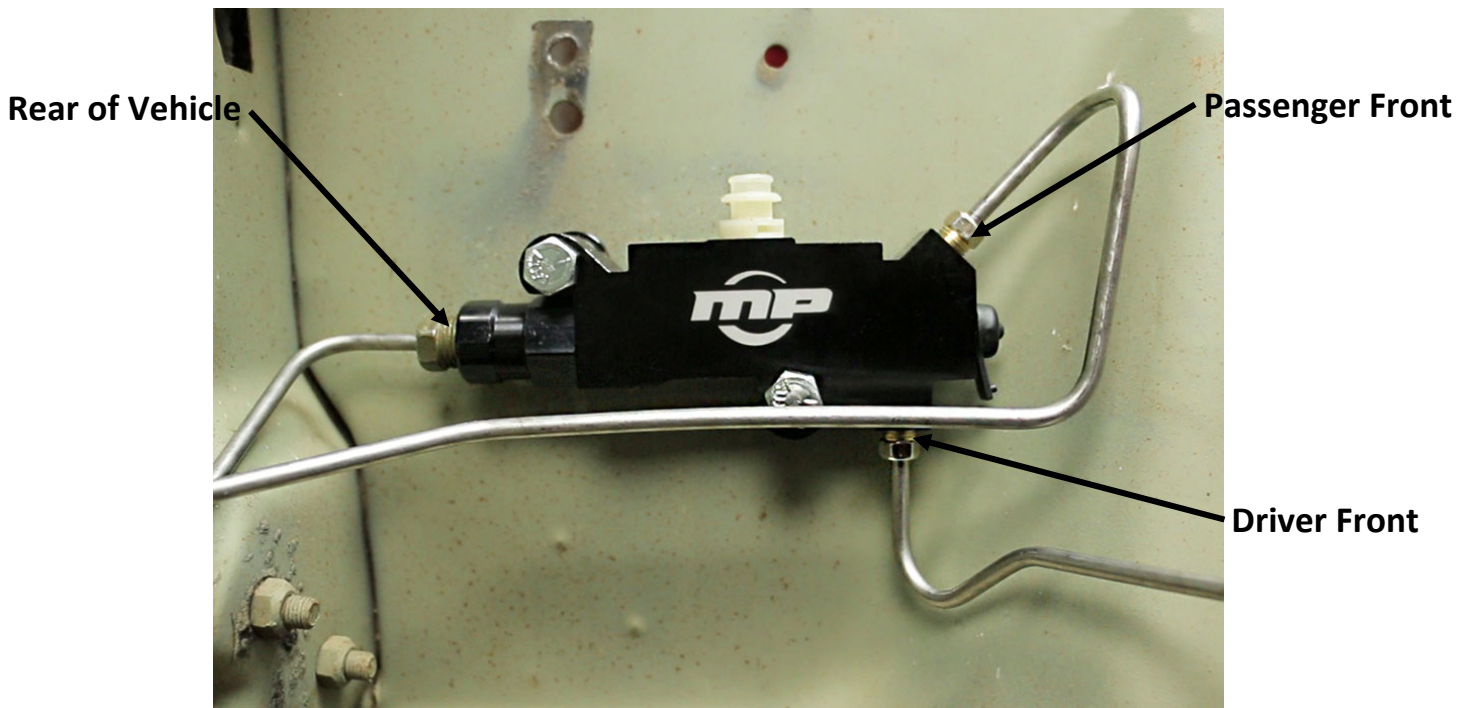

Figure 2 – Brake Line Routing
4. Attach the pre-bent brake lines to the Combination Valve. Once the fittings have been installed, tighten the two mounting bolts for the combination to 18 lbs/ft valve followed by the tightening of each fitting until fully seated. For reference on line routing, see Figure 2 Below.